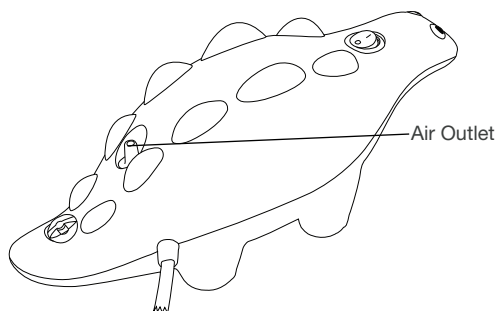

Figure 6-1
9. Attach one end of the tubing firmly onto to the air outlet on the back of the compressor unit. It is important that the tubing be pushed all the way onto the air outlet. The tubing is designed to fit tightly (Figure 6-1).